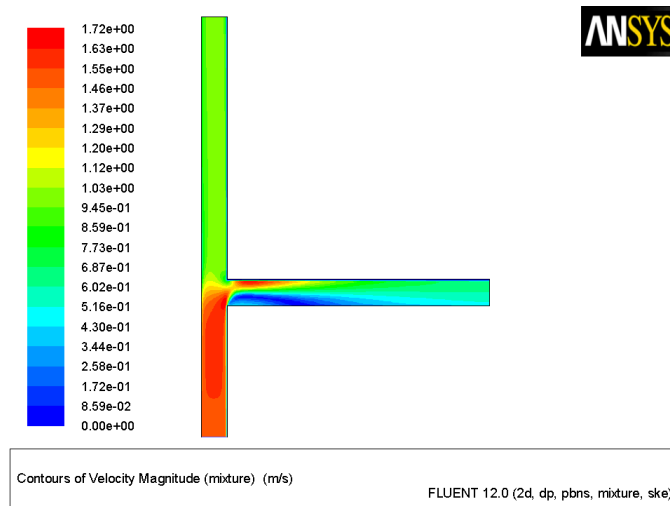

Figure 20.4: Contours of Velocity Magnitude
2. Display contours of velocity magnitude (Figure 20.4).